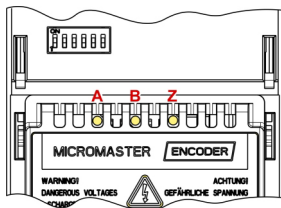

Figure 5-1 Encoder Module LED's
- Three status LED's on the front panel for indicating the operational status of Channels A, B and Z (See Figure 5-1 below).